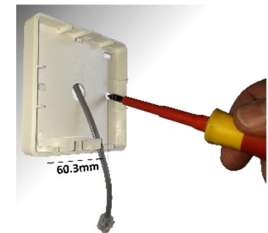

Fig 12
- Step 2** Feed one end of the RJ control cable through the switch box, feed and secure the RJ control cable through the back case and secure back case to switch box using 2 mounting screws (not supplied) (see Fig 12).